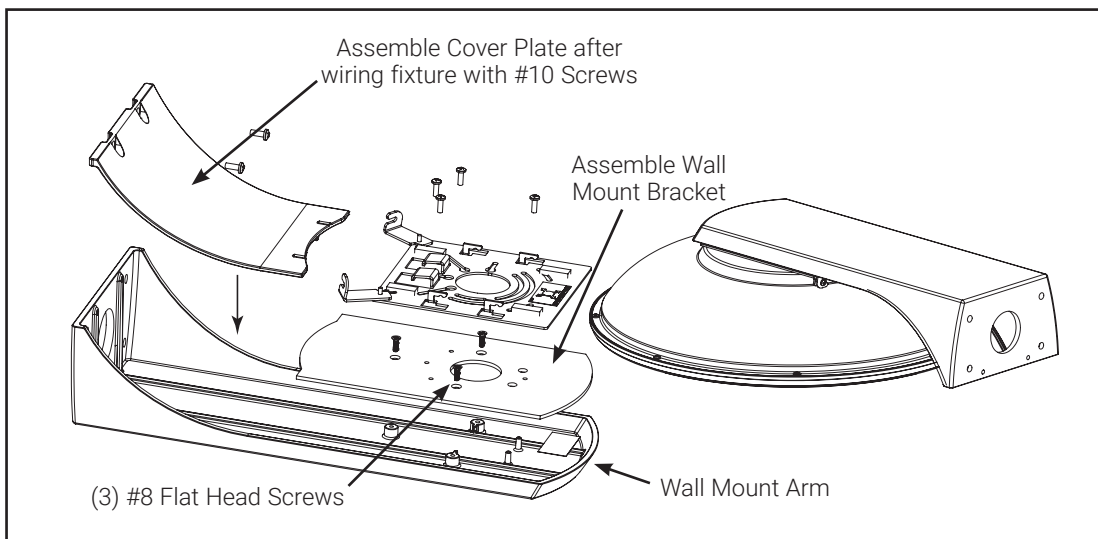

Figure 6
- Assemble Wall Mount Bracket to the Wall Mount Arm using the #8 Flat Head Screws provided. (**FIG. 6**)